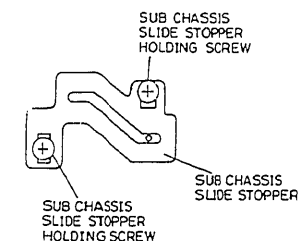

Fig. 3-5
- Push in the sub chassis in the direction of the cylinder. (See Fig. 3-5)
- Tighten two (2) screws holding the sub chassis slide stopper in the condition after step 3).